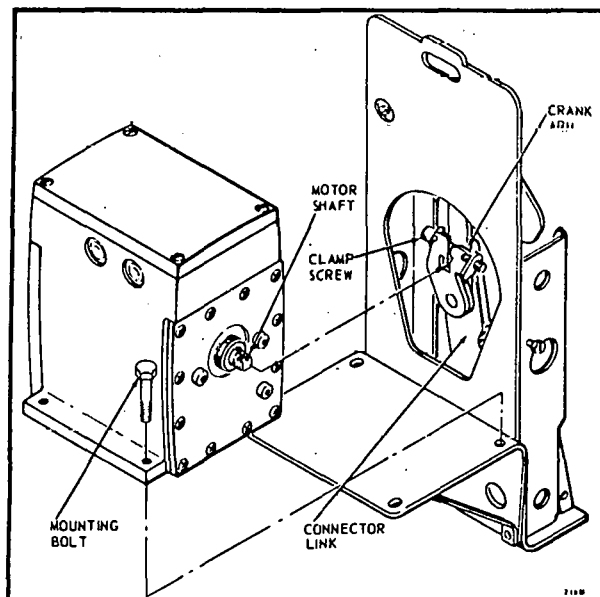

FIG. 2—MOUNTING THE MOTOR ON Q601 VALVE LINKAGE.
1. Hold the crank arm and connector link as shown in Fig. 2 (turn arm 160 degrees for normally open motors).